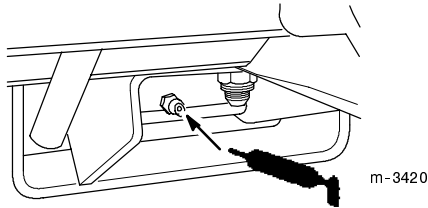

Figure 39
6. Grease the fitting on the brake pedal (Fig. 39).